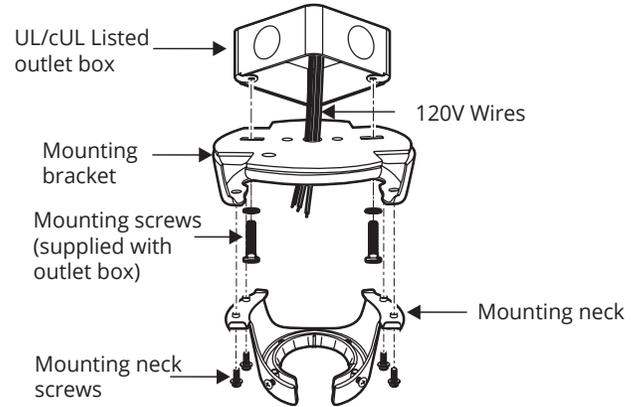

FIGURE 11
1. Pass the 120-volt supply wires through the center hole in the ceiling mounting bracket as shown in Fig. 11.
2. Secure the mounting bracket to the ceiling outlet box with the screws and washers provided with your outlet box. (Fig. 11)
3. Attach mounting neck onto the mounting bracket. Rotate the mounting neck to align the four screw holes. Secure mounting neck to the mounting bracket with four mounting neck screws to become a complete mounting bracket. (Fig. 11)